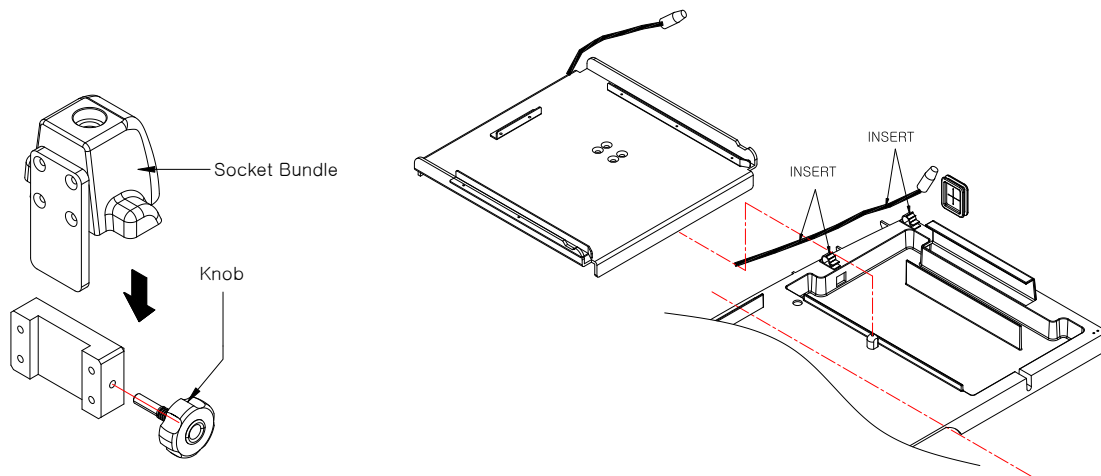

**FIG 5. How to assemble the upper part
- (1) There are four protrudent head of bolt under base. Install the incubator on a cabinet by inserting this protrudent parts into cabinet holes and then fasten with six fixing bolt(Truss Screw, M5X16) into the base(Fig. 5). It is strongly recommended to check if a cabinet part and an incubator base part are safely fixed by shaking the upper part a few times.